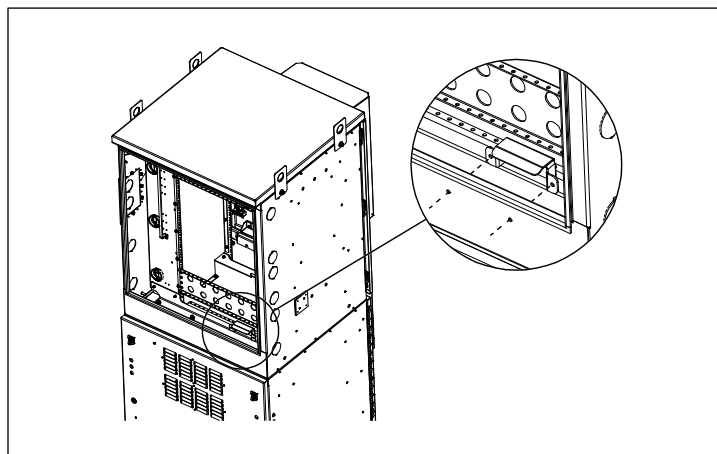

Figure 7 Mount Door Ramp
5. Install the door ramp on the inside of the CUBE door frame using 1/4-20 hardware included with the kit (Figure 7).